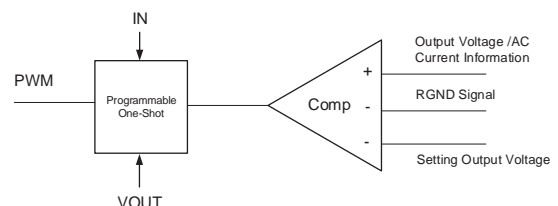

Figure 2. Simplified Control Schematic of AOZ23645QI
The simplified control schematic is shown in Figure 2. The high-side switch on-time is determined solely by a one-shot whose pulse width is inversely proportional to input voltage (IN). The one-shot is triggered when the internal setting output voltage is higher than the combined information of output voltage and the AC current information of inductor and load line signal, which is processed and obtained through the sensed low-side MOSFET current once it turns on. The added AC current information can help the stability of constant-on time control even with pure ceramic output capacitors, which have very low ESR. The AC current information has no DC offset, which does not cause offset with output load change, which is fundamentally different from other  $V^2$  constant-on time control schemes.